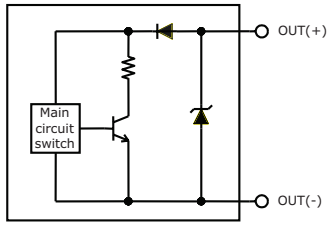

Fig. 1
*6: When no input current has been applied, an alarm is output. Fig. 1 shows an internal alarm circuit.